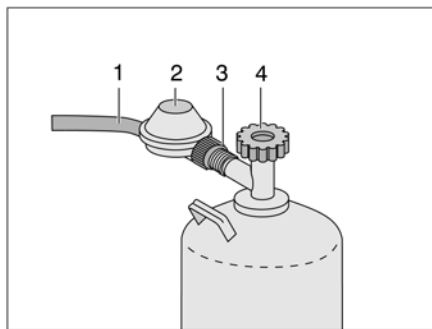

Fig. 225 Gas bottle connection
- Close the regulator tap (Fig. 225,4) on the gas bottle. Pay attention to the direction of the arrow.
- Hold the gas pressure regulator (Fig. 225,2) and open the knurled nut (Fig. 225,3) (left-handed thread).
- Remove the gas pressure regulator and the gas tube (Fig. 225,1) from the gas bottle.
- Position the gas pressure regulator (Fig. 225,2) and the gas tube (Fig. 225,1) on the gas bottle and tighten the knurled nut (Fig. 225,3) by hand (left-handed thread).